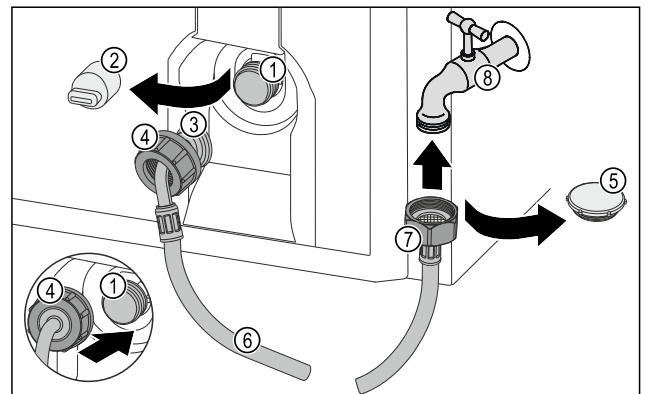

Fig. 45
- ▶ Remove the closure cap *Fig. 45 (5)*.
- ▶ Place the straight end of the hose *Fig. 45 (7)* on the tap *Fig. 45 (8)*.
- ▶ Tighten the nut at the straight end of the hose *Fig. 45 (7)* in a clockwise direction.